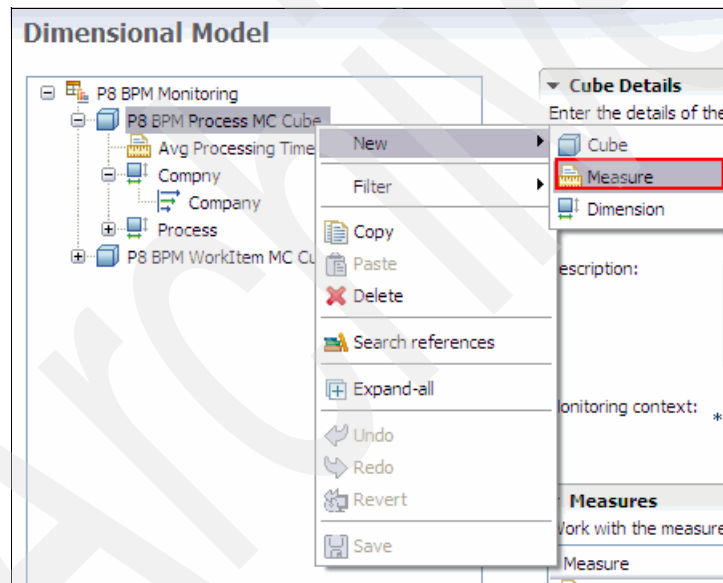

Figure 7-82 Dimensional Model page
1. In the Dimensional Model panel (Figure 7-82), right-click **P8 BPM Process MC Cube** in the model tree, and select **New** → **Measure**.